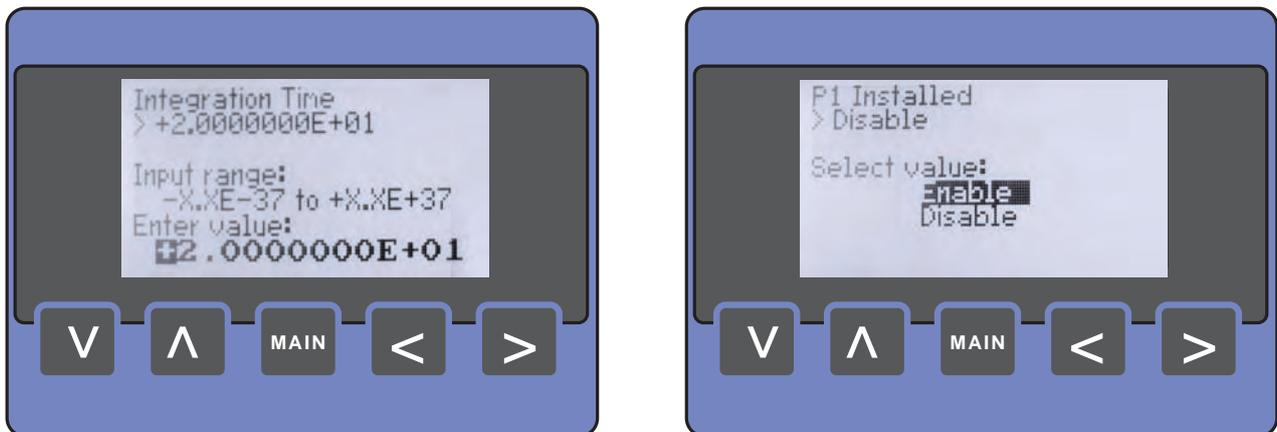

FIGURE 4-16
- On selection of an available entity, the [value edit] screen is presented (see FIGURE 4-16).